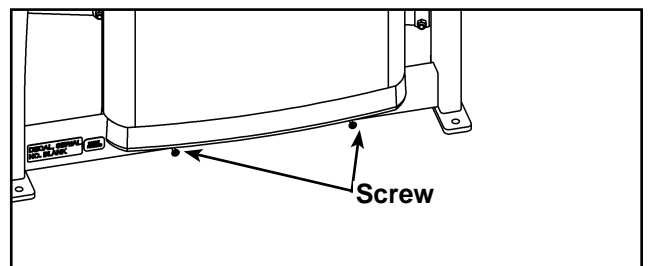

Figure 3
F. Loosen bottom two screws shown in Figure 3.